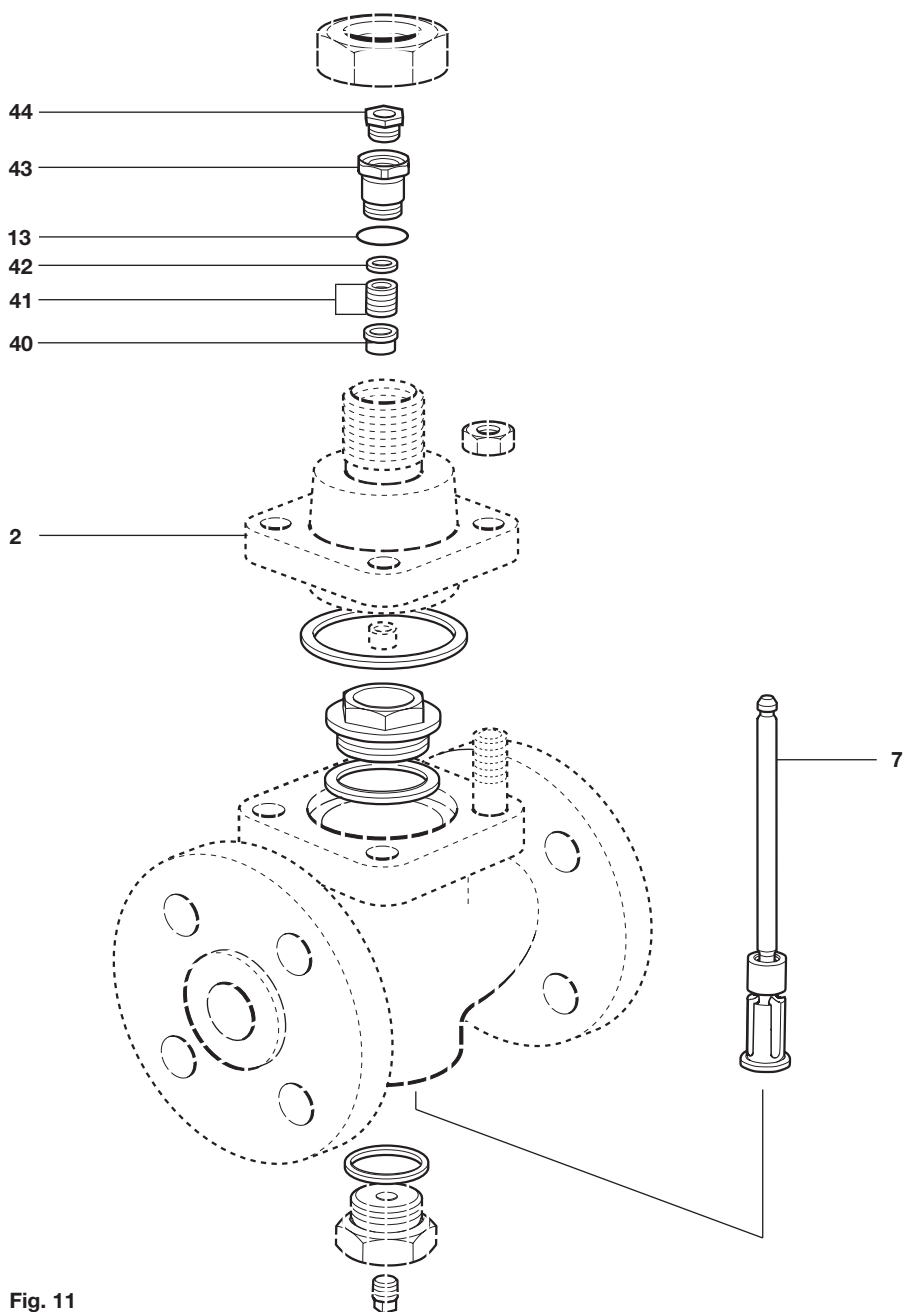

Fig. 11
- Turn the adjustable gland nut (**44, Figure 11**) clockwise one flat (60°) at a time, then operate the valve several times. Repeat if still leaking.